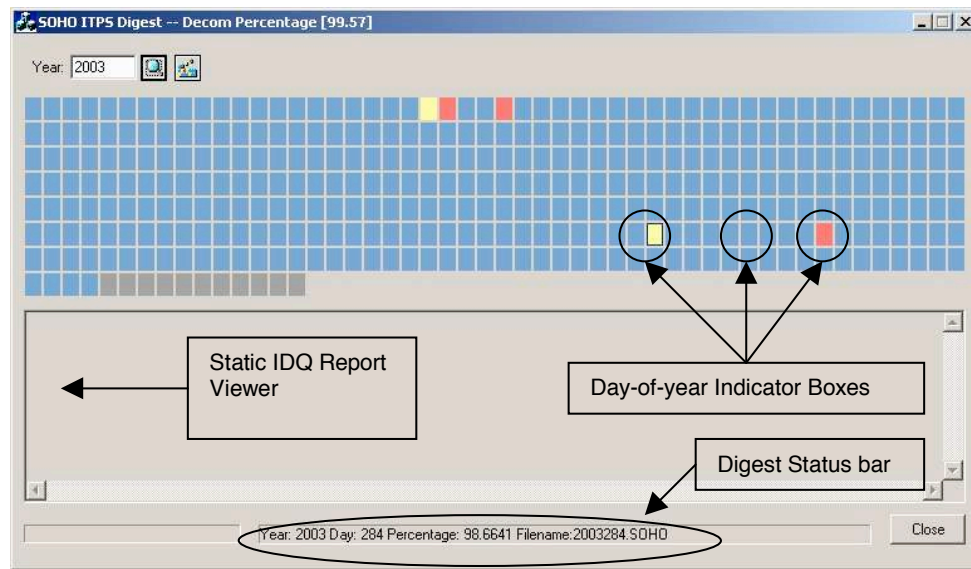

Figure 117: Digest Window
- Move the mouse over the day-of-year indicator boxes to see the available percentage completion data in the Digest status bar window (*Figure 117*).
- Change the Digest display year in the Digest display window (Figure 117) and click the  icon to begin rescanning the archive for a different year.